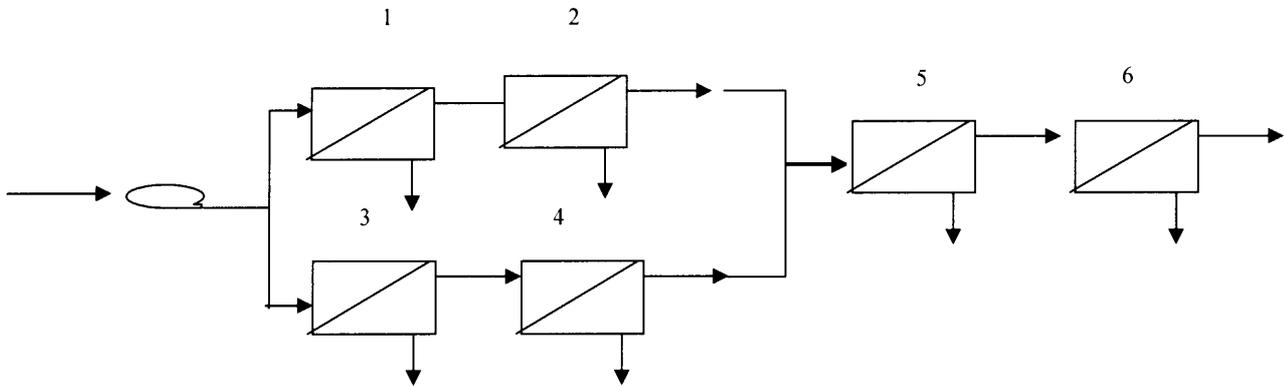

Figure 1 Diagram of RO system
1. Please design and find the optimum value for RO system for water production as Figure 1 (12 Points)